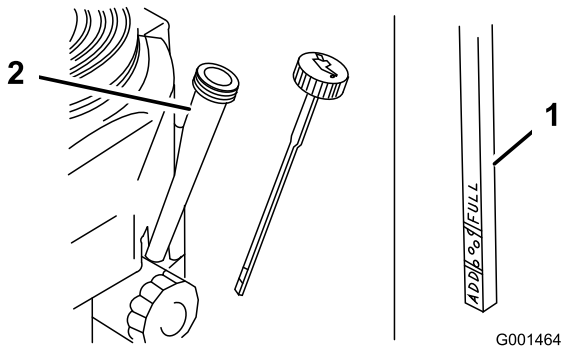

Figure 24
4. Clean around the oil dipstick (Figure 24) so that dirt cannot fall into the filler hole and damage the engine.
5. Unscrew the oil dipstick and wipe the end clean (Figure 24).
6. Slide the oil dipstick fully into the filler tube, but do not thread onto tube (Figure 24).
9. Slowly pour approximately 80% of the specified oil into the filler tube (Figure 24).